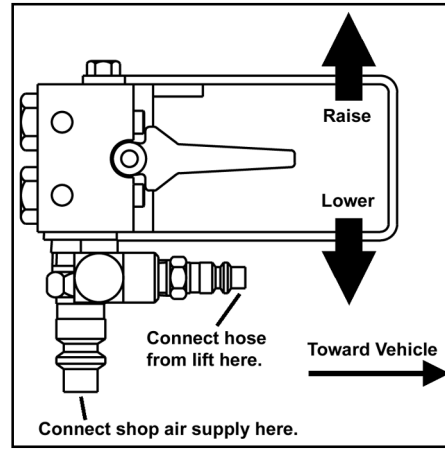

Fig. 6: Air control lever
8. Position yourself at the front or rear of the vehicle so both lifts are visible. Face the vehicle and hold the air control unit with the air control levers pointing toward the vehicle and the quick couplers on the underside of the air control unit. (See Fig. 6 for orientation).
9. Connect the air hose from the lift on your right to the right side of the air control unit. Connect the air hose from the lift on your left to the left side of the air control unit (see Fig. 6 for connections).
5. Connect the air hose from the lift on your right to the right side of the air control unit and the air hose from the lift on your left to the left side of the air control unit (see Fig. 6).
6. Connect the air supply to the air inlet port of the air control unit (see Fig. 6).